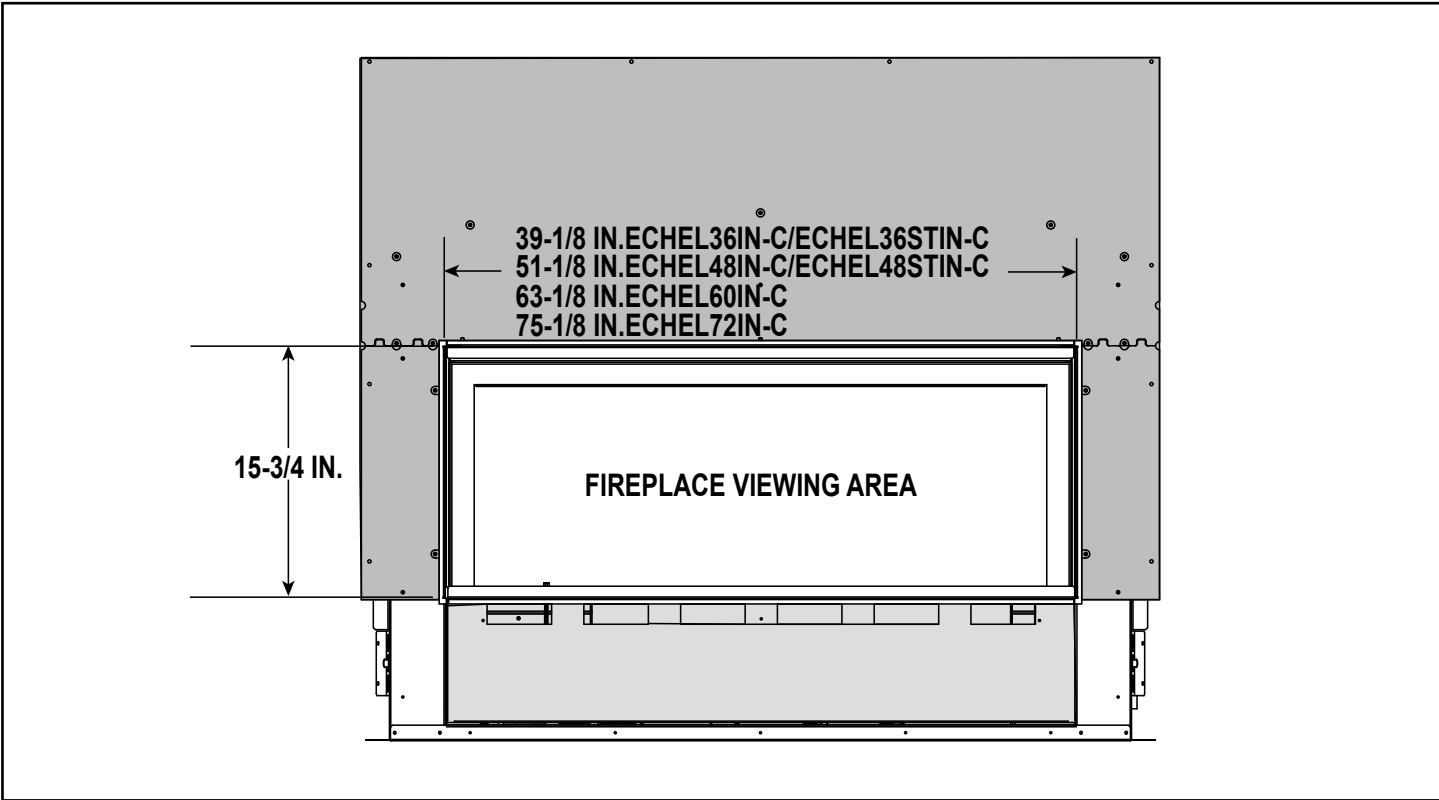

Figure 10.4 Minimum Finished Opening Dimensions - Clean Face Trim Front Method
- 2. The non-combustible finish material, 0-1 inch thick, should be installed up to the fireplace opening on all four sides, including the bottom access panel, covering the eight rectangular holes. Refer to Figure 10.4 for minimum finished opening dimensions.
2. The non-combustible finish material, 1-4 inches thick, should be installed up to the fireplace opening on all four sides, including the bottom access panel, covering the eight rectangular holes. Refer to Figure 10.4.